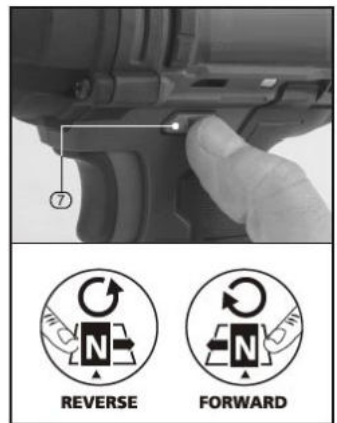

FIG.5
**Rotational drive selection - fig.5**